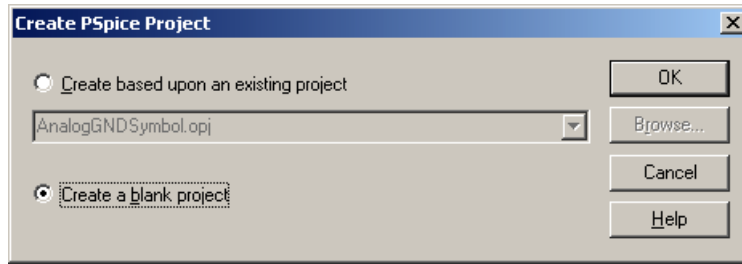

Figure 3. Final dialogue box to create a PSPice project. Select Create a blank project.
6. Select the Create a blank project button in the small dialogue box that appears, shown in figure 3, and click OK.